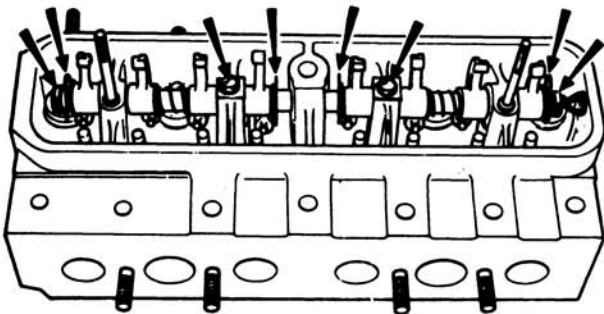

FIGURE 1. PRELIMINARY DISASSEMBLY OF ROCKER SHAFTS
3. Remove the rubber grommet from the rocker shaft aperture. Unscrew the rocker shaft end bolts. Remove the four clips, the two end springs and the two rocker shaft lock bolts (Figure 1).